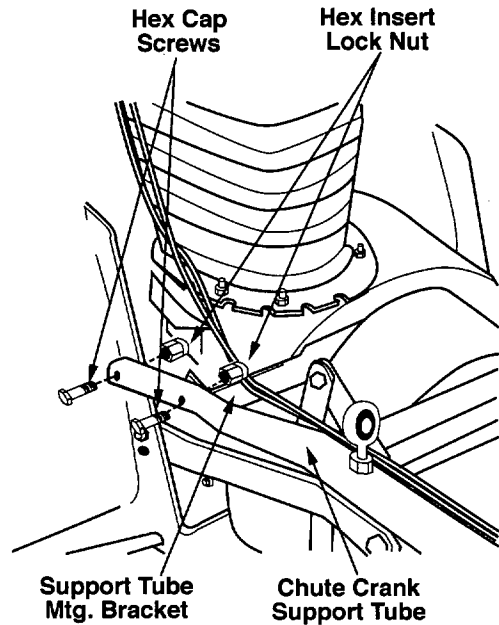

Figure 5
4. Fasten the chute crank support tube assembly (1-5) to the support tube mtg. bracket and to the back of the snow thrower housing using the hex cap screws (2-4) and hex insert lock nuts (2-5). Refer to Figure 5.